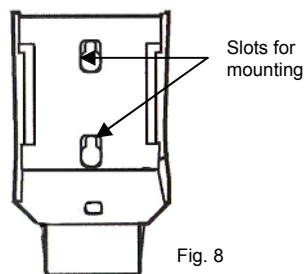

Fig. 8
5. Carefully measure and mark the location of all bracket holes. (Fig. 8) Suggestion: Use a piece of paper of the same size as bracket to measure and mark hole locations on wall, and then drill holes and screw the wall mounting bracket onto the wall.